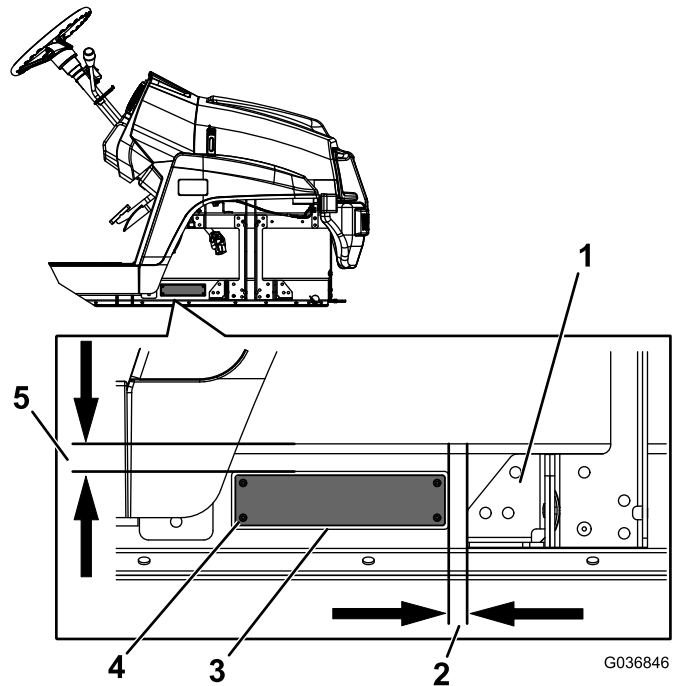

Figure 9
1. Install the serial plate using 4 rivets in the location shown in Figure 9.